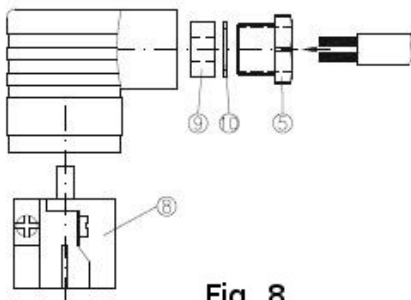

Fig. 8
- Insert the connecting cable through the screw connection (pos. 5), the pressure ring (pos. 10) and the rubber insert (pos. 9) into the cable socket (Fig. 8).